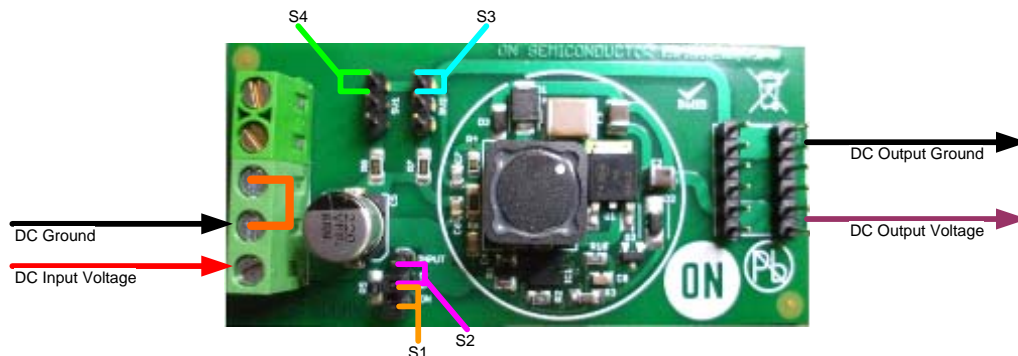

Figure 2: NCP3066 SEPIC DC Input PCB Enable Setup
3. Place a removable jumper as shown in Figure 2 as S1 to enable the part, S2 will disable the part.